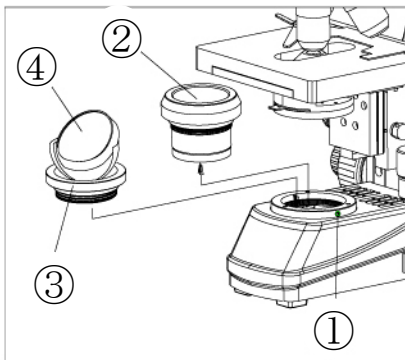

Fig. 5
Loosen the Allen screw ① with an Allen wrench to screw off the built-in illuminator housing ② (see Fig. 5).